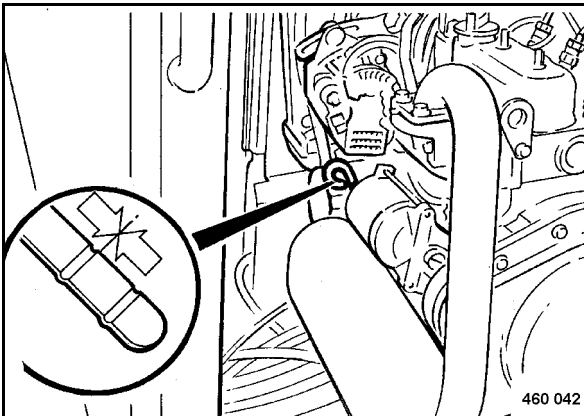

Fig. 96
- After a short test run check the oil level on the dipstick (Fig. 96). The oil level must reach the top mark on the dipstick, if necessary top up oil.